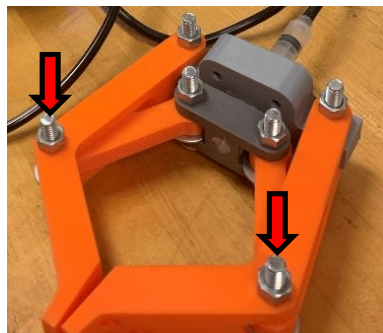

Figure 2. Indication for rubber bands linkage
- 3.6. Attach a rubber band linking the lower joints of the gripper indicated by red arrows on *Figure 2*. **What do you observe? Why?**